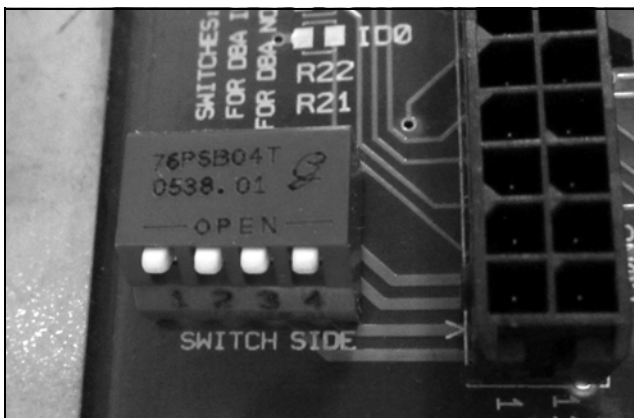
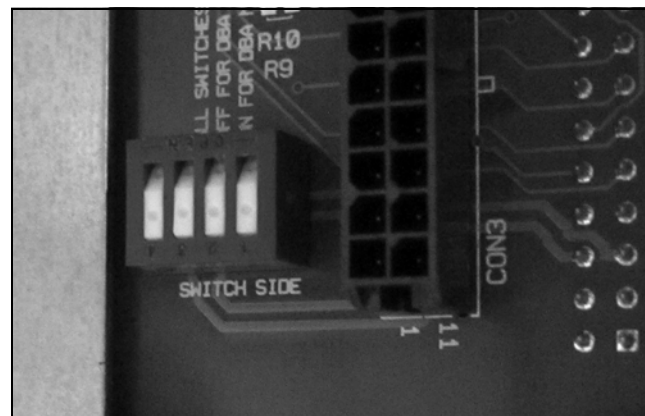

Figure 52 Older style rocker switches set for a DBA with the switches set in the open position.
Figure 53 Newer style rocker switches set for a DBA with the switches set in the open position.
6. Verify the rocker switch settings. The rocker switches are located just above the DBA. Confirm the switches are in the proper position for a DBA (see Figure 52 and Figure 53).